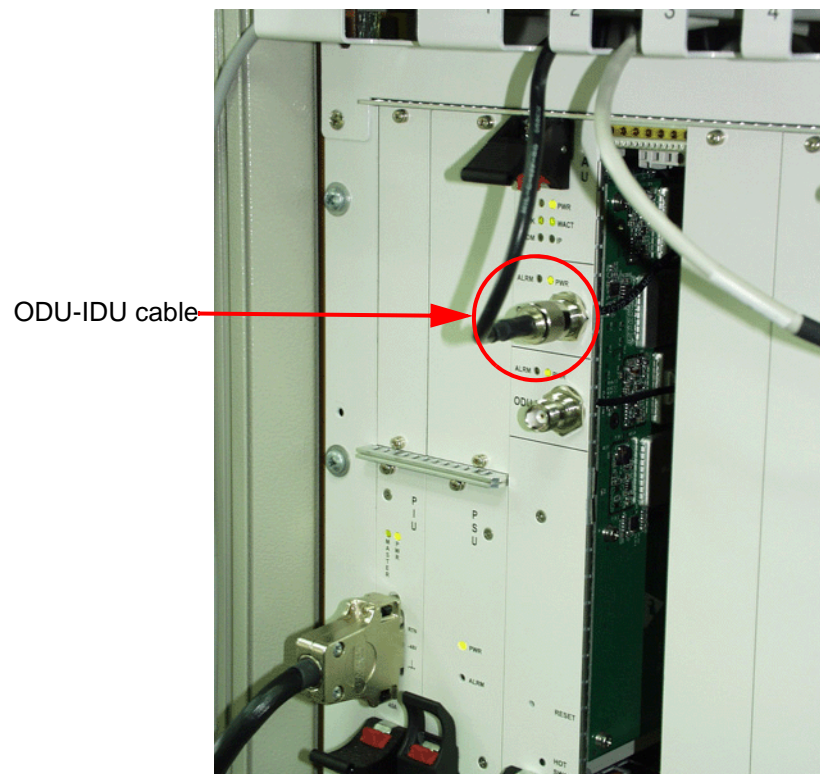

Figure 6-5: Connecting the ODU-IDU Cable - Modular Base Station
- ◇ AU-IDU: to the ODU connector at the AU-IDU front panel (see Figure 6-5).